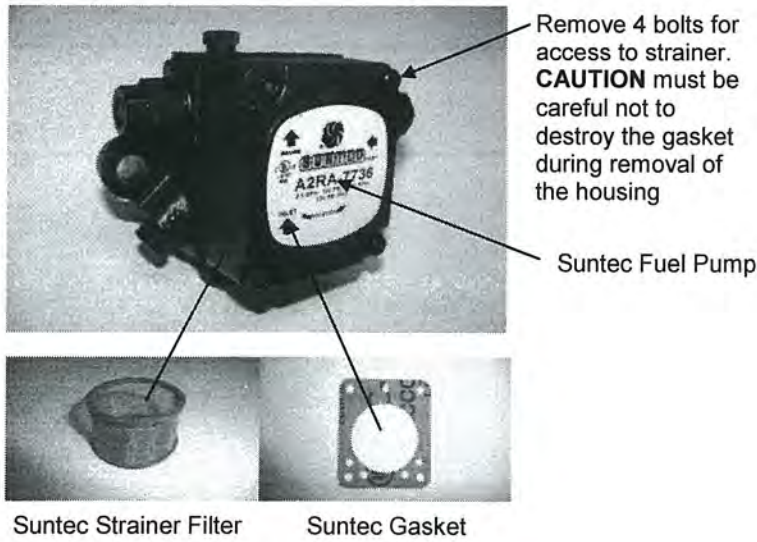

Figure 36 – Pump Strainer
- Check and clean pump strainer atleast once per season as shown in Figure 36.